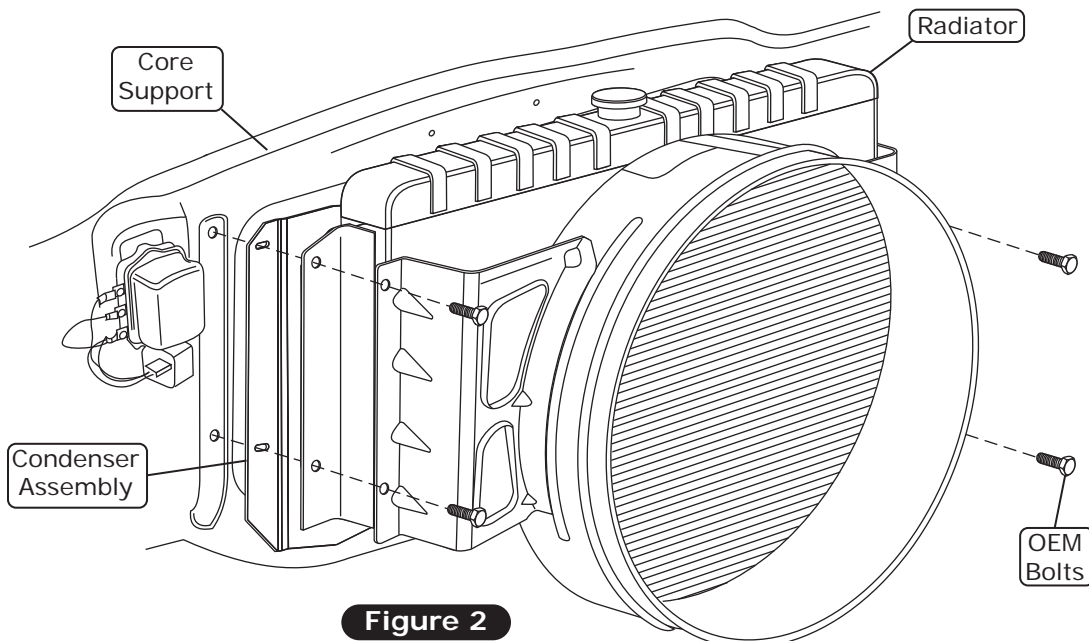

Figure 2
2. Using the OEM hardware, secure the condenser assembly between the radiator and the core support (See Figure 2, below).